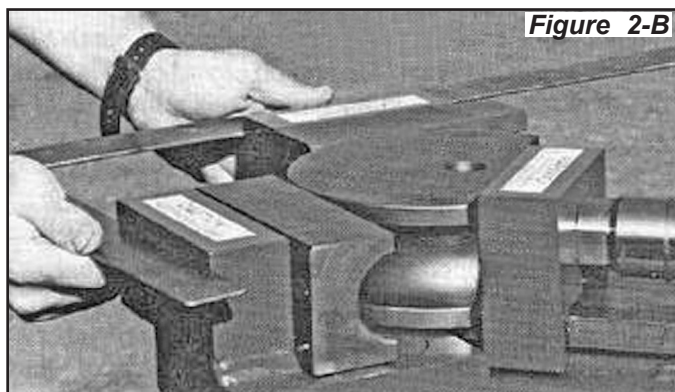

Figure 2-B
- Using a carpenter's square, advance the radius die until the back gates are at a true 90 degrees, contacting the inside of the square evenly across the front of the gates. (See figure 2-B)
- Check the depth-of-bend plate and adjust the pointer so that it reads 90 degrees at this time. (See figure 2-C)